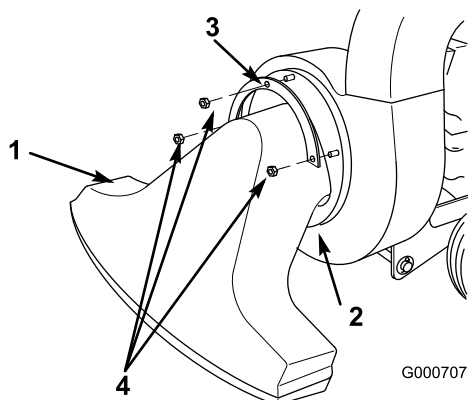

Figure 20
2. Remove the locknuts, washers, and retainer flange securing the snout and remove the snout (Figure 20).